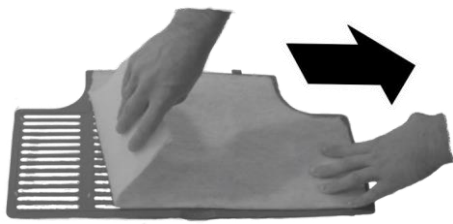

Fig. 29: Remove the cleaning filter
2. → Remove the old cleaning filter (Fig. 29).